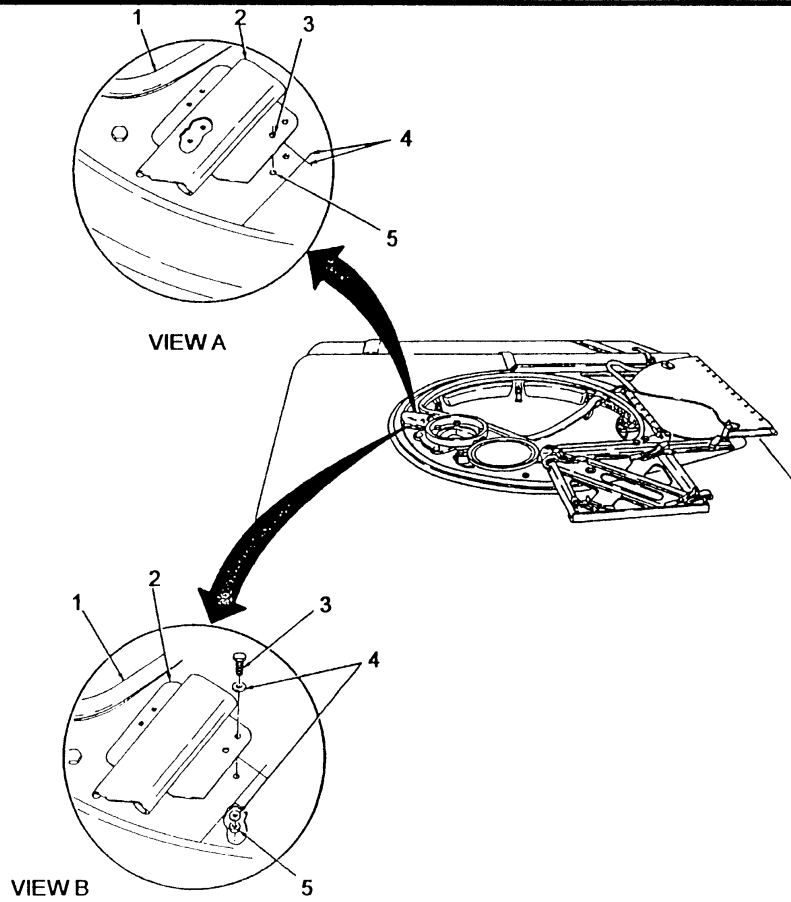

FIGURE 3-17
G. Using holes (3) in turret handle (2) as a template, locate, mark, and drill four 0.344-inch diameter holes (5) in weapon station (1).
I. Position turret handle (2) on weapon station (1) and secure with four NSN 5306-00-050-1237 bolts(3), eight NSN 5310-01-119-1024 washers (4), and four NSN 5310-00-241-6658 lock-nuts (5). (see figure3-17, view B)